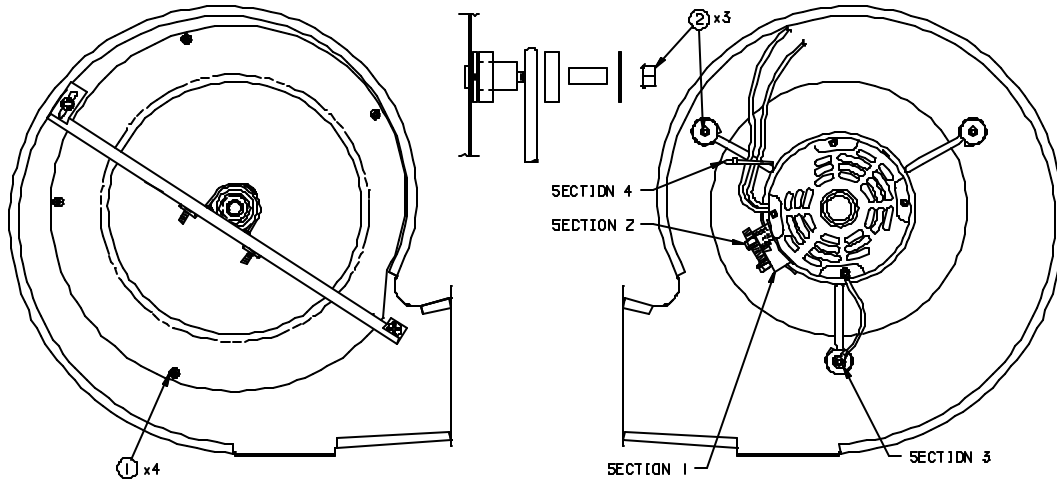

FIGURE 7
5. Remove 3 screws from motor mount bracket (See #2, Figure 7).
- Note: Upon reassembly, the references made on Figures 7 and 8 shall be used for proper reassembly.